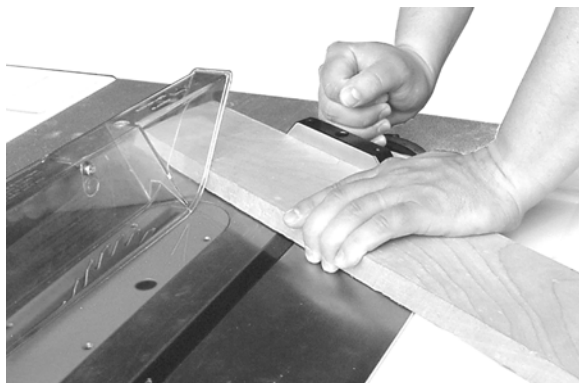

Figure 37
**Crosscut** – Crosscuts made at an angle to the edge of the workpiece are called miters (Figure 37). Set the miter gauge at the required angle, lock the miter gauge, and make the cut the same as a normal crosscut except the workpiece must be held extra firmly to prevent creeping.